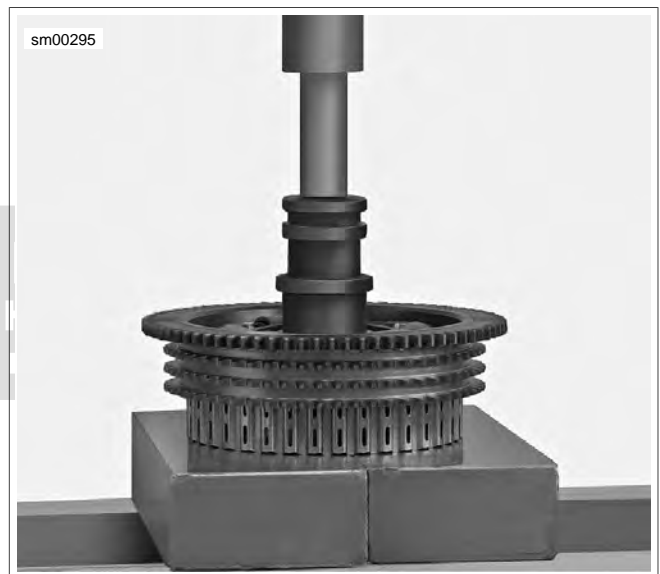

Figure 5-31. Removing Clutch Shell Needle Bearing
- See Figure 5-31. Place clutch shell on support blocks with sprocket side facing up.
- See Figure 5-31. Insert removal end of tool into bearing assembly and remove bearing from clutch shell.